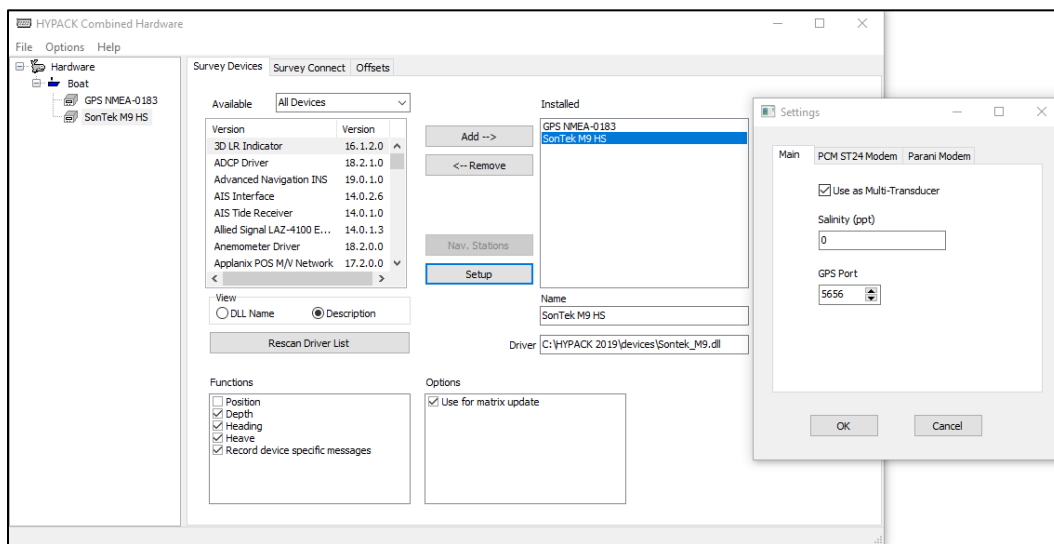

Figure 7.—Settings popup window under the Survey Devices tab within the HYPACK Combined Hardware window.
1. In the HYPACK combined Hardware window, verify both the SonTek M9 device and the **Survey Devices** tab are selected. In the Functions box in the lower left corner of the Survey Devices tab, ensure everything is checked EXCEPT “Position.” In the Options box in the lower right corner of the Survey Devices tab, ensure “Use for matrix update” is checked. This will allow the user to create a coverage map in real-time. Then, click on “Setup.” Under the Main tab in the Settings popup window, verify “Use as Multi-Transducer” is checked (figure 7).